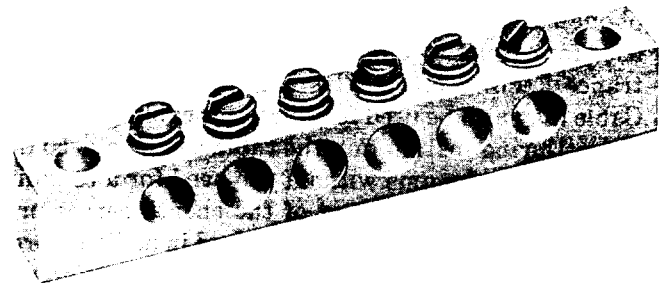

Fig. 3—8A Ground Strip
2.06 Although not unique to B Plenum Cable, the use of the 8A ground strip (Fig. 3) greatly facilitates bonding of several cable shields at the equipment closet, backboard, or terminal.